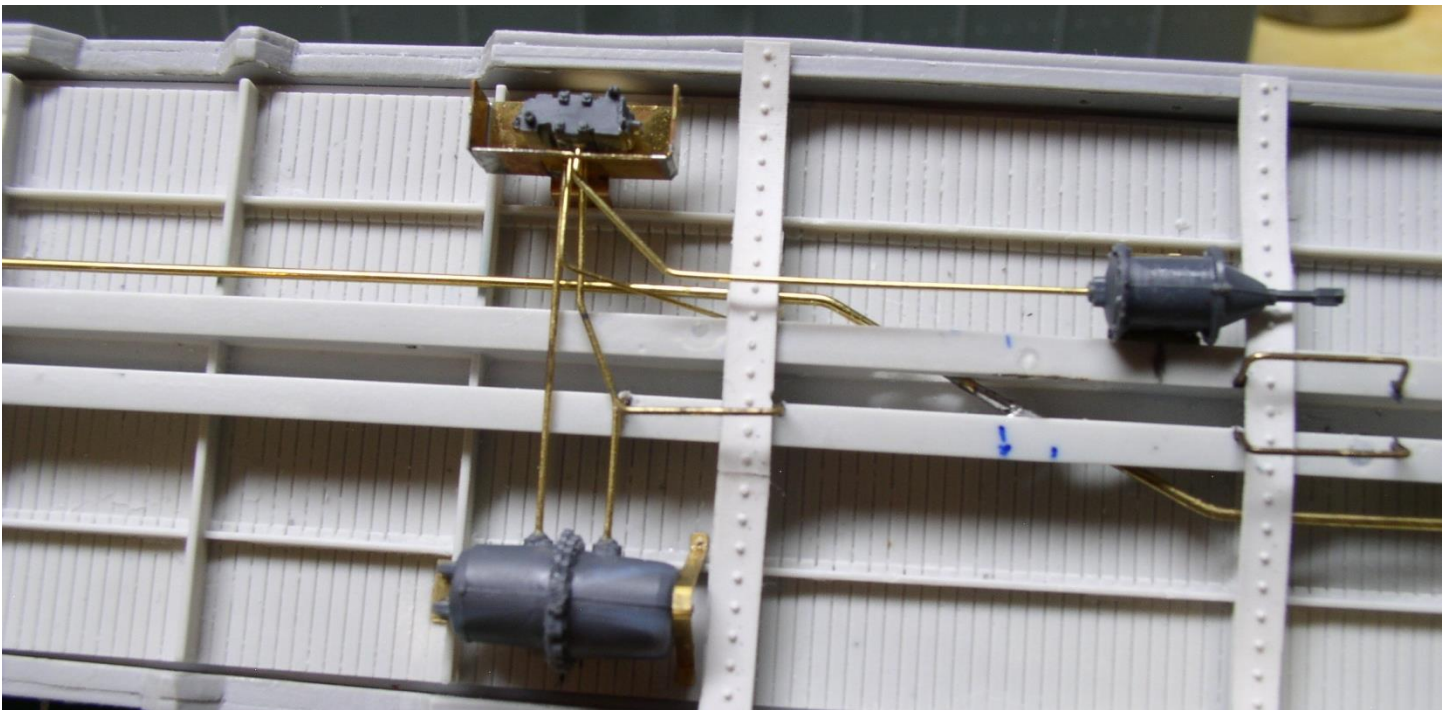

Figure U14f Showing the Pipes in the AB Valve So Far
15. Form the pipe that goes into the Brake Cylinder. Shape it as you see in Figure U14f. Attach to the Brake Cylinder and the Upper Right hole in the AB Valve.